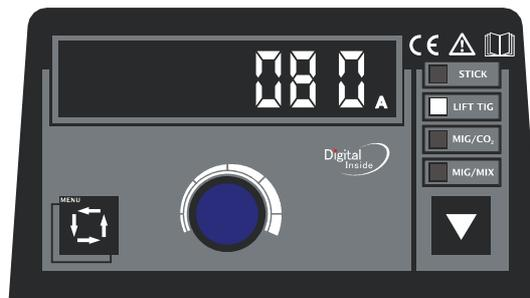

Fig.3: The preset current under T TIG mode
- Under TIG mode, the multifunctional data display is as shown in Fig.3.